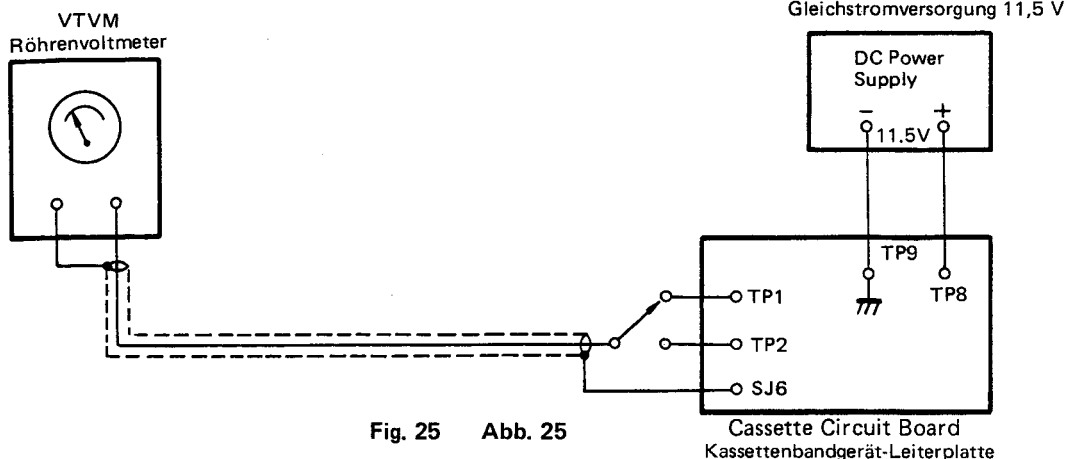

Fig. 25 Abb. 25
1. Set up Voltmeter and DC power supply as shown in Fig. 25.